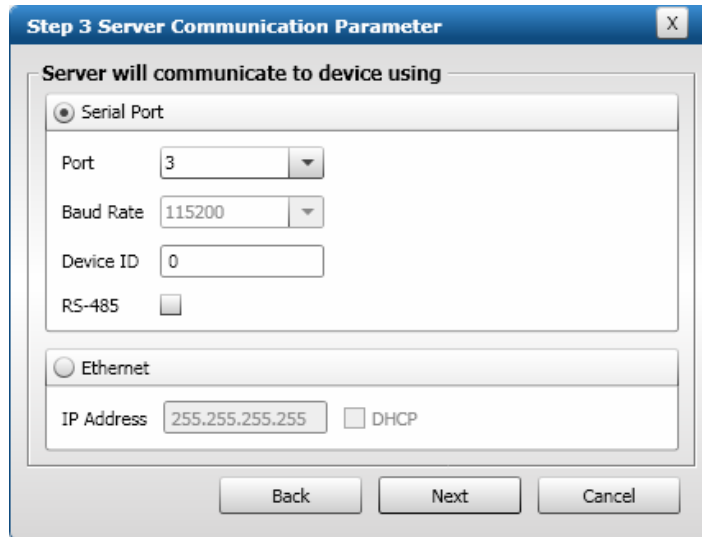

Figure 6-7: Step 3 Server Communication Parameter Dialog Box
6. Click **Next**. The Step 3 Server Communication Parameter dialog box is displayed (see Figure 6-7 on the next page).